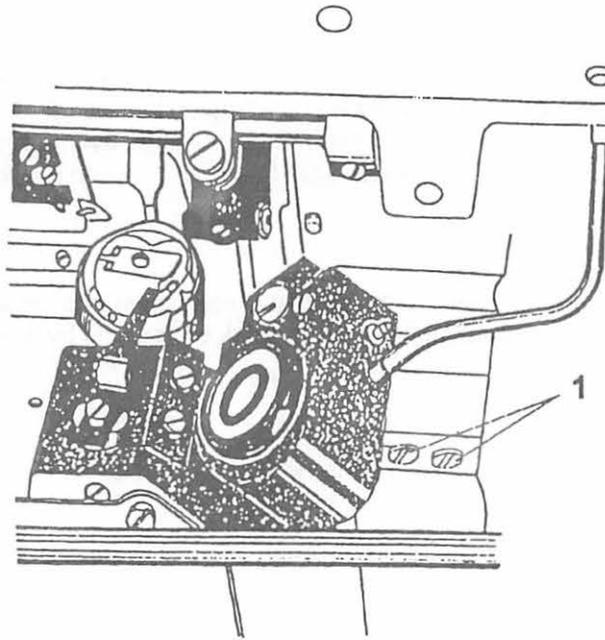

Fig. 14
**21. To adjust the position of the needle bar with respect to that of the hook shaft (Figs. 14, 15)**
After a substantial adjustment of machine mechanism should be checked the median (vertical) needle bar position with respect to that of the hook shaft. The hook shaft axis is displaced to the left of the needle bar axis. For adjustment, loosen the two screws (1, Fig. 14) ensuring the locking joint between the bed plate and the hook gear box. In correct position, the hook gear box is in direct contact with the lug of the bed plate. Lock the gear box position by tightening the two screws (1).